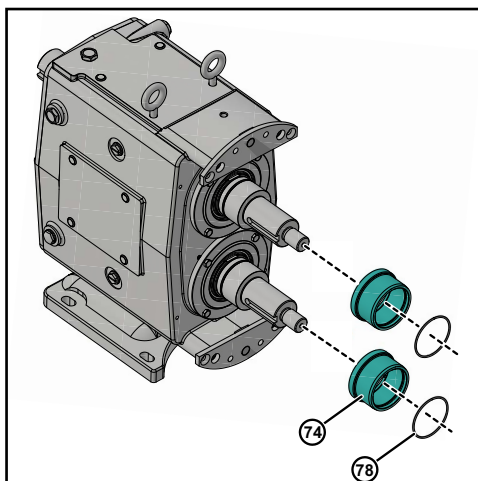

Figure 86 - Remove Sleeves and O-rings
5. Remove the two sleeves (74) along with two sleeve O-rings (78), as shown in Figure 86.